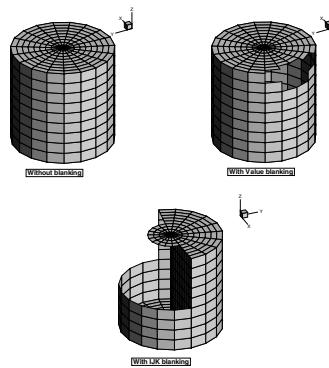

Figure 20-2. Boundary Cell Face plotting without blanking, with value-blanking, and with IJK-blanking.
- Boundary Cell Faces:** This will plot all surfaces on the outside of the volume zone. For IJK-ordered data this amounts to plotting the minimum and maximum I-, J-, and K-planes. For finite-element volume data this will plot all faces that do not have a neighbor cell (according to the connectivity list). If blanking is turned on, the boundary cells in the blanked region will not be drawn and you will be able to see the interior of the volume zone. Figure 20-2 shows plots of a volume zone with surface to plot set to Boundary Cell Faces without blanking, with value blanking, and with IJK-blanking.